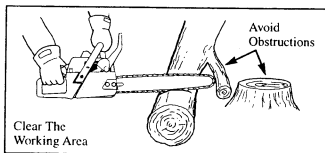

Figure 3
3. **Keep the working area free from obstructions** such as other trees, branches, rocks, fences, stumps, etc. Figure 3. Eliminate or avoid any obstruction that your saw chain at the bar tip could hit while you are cutting.